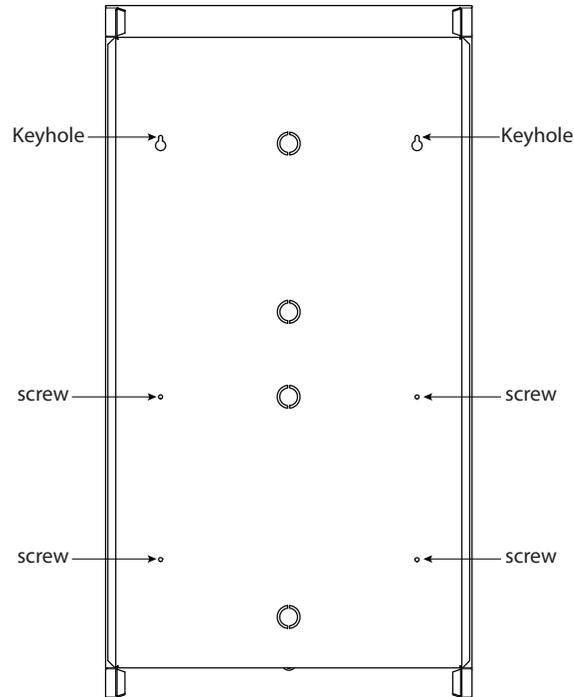

Figure 9. TX3-TOUCH-S22-C/D/E mounting holes
2. Using the surface mount enclosure as a template, mark the back mounting hole locations of the two keyholes as shown in Figure 9. Ensure that at least one side is over a wall stud.